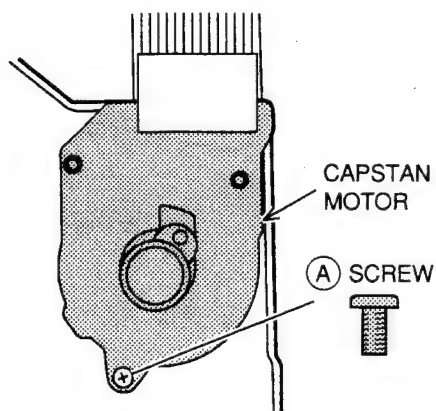

Fig. 3-21
3. Remove the (A) screw and remove the CAPSTAN MOTOR as shown in Fig. 3-21.